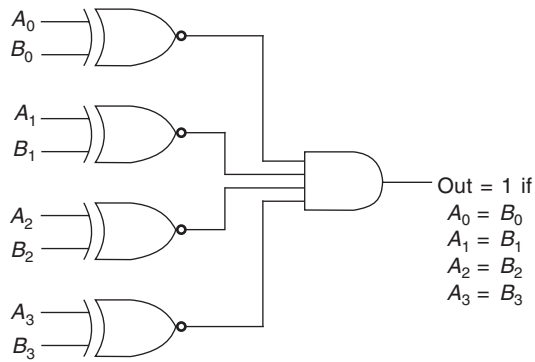
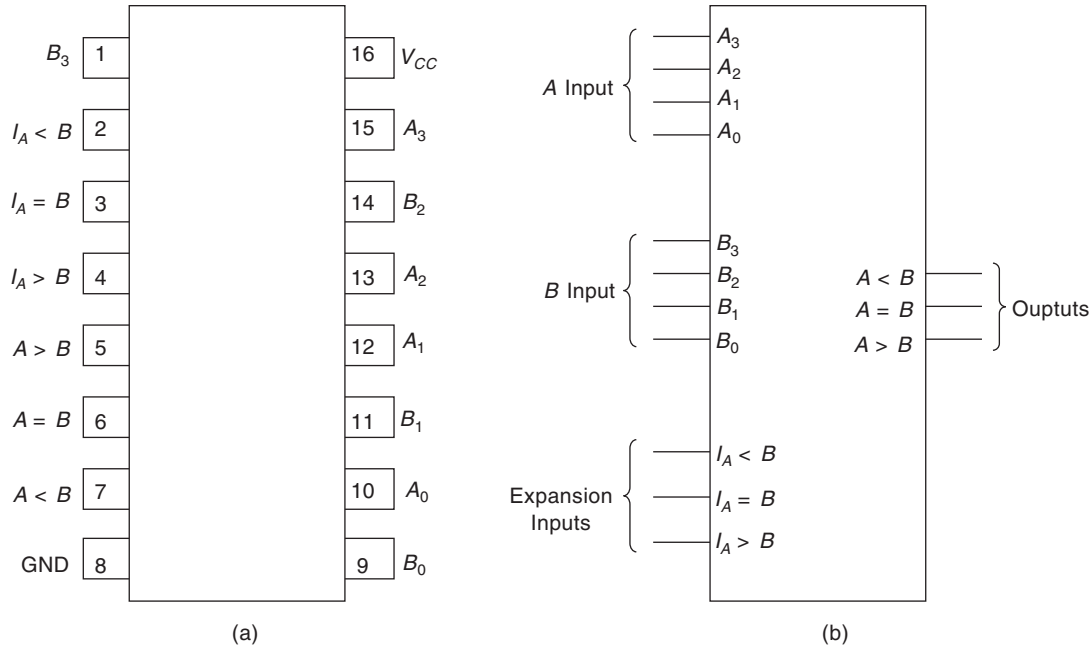

Fig. 10.36 Binary Comparator for Comparing two 4-bit Binary Strings.
Fig. 10.38 The 7485 Four-bit Magnitude Comparator: (a) Pin Configuration, (b) Logic Symbols.
In Fig. 10.36, if A_0 & B_0 are equal, 1-1 or 0-0, the top Ex-NOR will output a 1. The same holds true for the second, third, and fourth Ex-NOR gates. If all of them output a 1, the AND gate outputs a 1, indicating equality.
10.45 Referring to Fig. 10.36 determine if the following pairs of input binary numbers will output a 1.
The 7485 is a TTL 4-bit magnitude comparator. The pin configuration and logic symbol for the 7485 are given in Fig. 10.38. The 7485 can be used just like the basic comparator of Fig. 10.36 by using the A inputs, B inputs, and the equality output ($A = B$). The 7485 has the *additional feature* of telling which number is larger